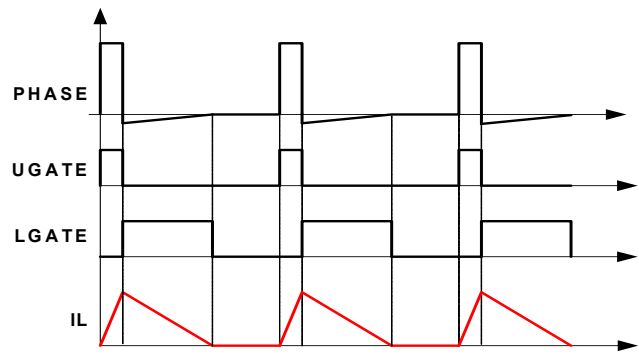

FIGURE 10. DIODE EMULATION
The ISL6267 can operate in diode emulation (DE) mode to improve light-load efficiency. In DE mode, the low-side MOSFET conducts when the current is flowing from source to drain and does not allow reverse current, thus emulating a diode. As Figure 10 shows, when LGATE is on, the low-side MOSFET carries current, creating negative voltage on the phase node due to the voltage drop across the ON-resistance. The ISL6267 monitors the current by monitoring the phase node voltage. It turns off LGATE when the phase node voltage reaches zero to prevent the inductor current from reversing the direction and creating unnecessary power loss. If the load current is light enough, (see Figure 10). The inductor current reaches and stays at zero before the next phase node pulse, and the regulator is in discontinuous conduction mode (DCM). If the load current is heavy enough, the inductor current will never reach 0A, and the regulator is in CCM, although the controller is in DE mode.